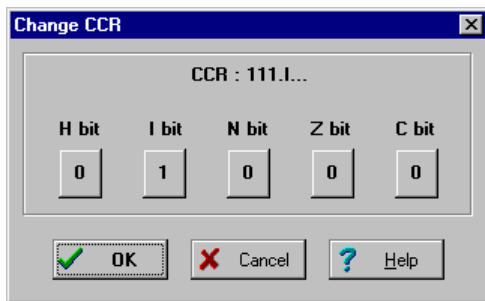

Figure 6-14. The *Change CCR* Dialog
- To change the CPU accumulator (ACCA), index register (XREG), and program counter (PC) values from the CPU window, click on the value and enter the new value in the dialog. Press OK to close the dialog and save the new value.
- To change the CPU CCR values, double click the CCR value in the CPU window to open the *Change CCR* dialog (Figure 6-14). Change the H, I, N, Z, or C CCR bits by pressing the button below each to toggle condition code register bits between 1 (on) and 2 (off). Press OK to close the dialog and save the values.